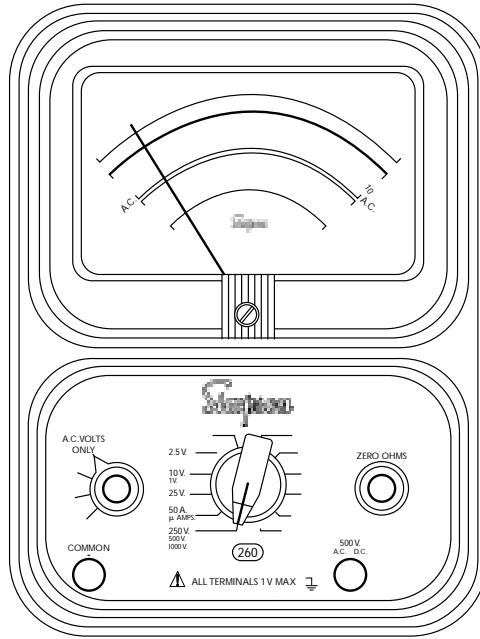

FIGURE 4-7. Jacks and Switch Positions for Measuring AC Voltage 0 Through 1000V Range
- a. Set the function switch at AC (Figure 4-7).